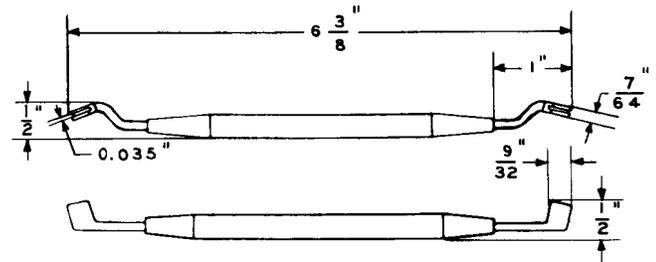

Fig. 11—416B Adjuster Tool
2.11 **416B:** The 416B tool (Fig. 11) is a spring adjuster for use on 197-, 198-, 211-, 212-, and plunger-type line and out-trunk relays. The 416B tool replaces the AECO spring adjuster H-20777 and the 416A tool.